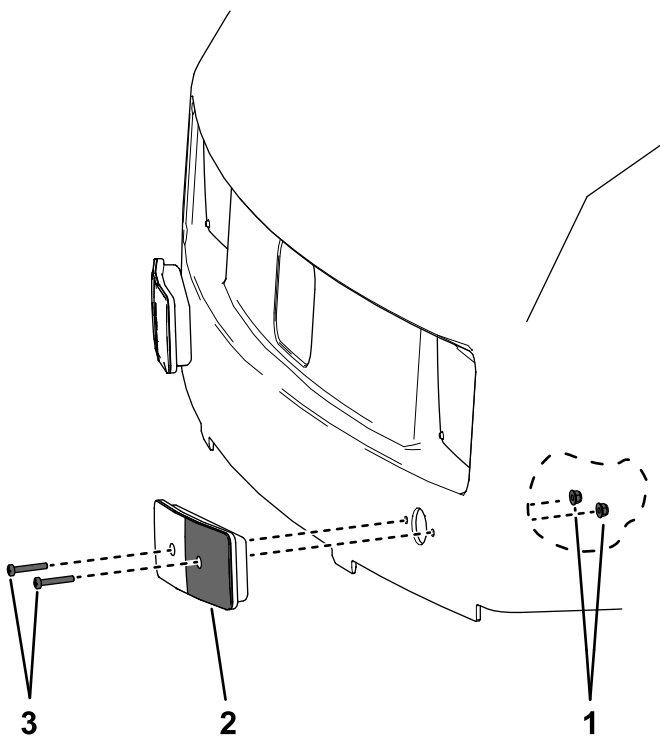

Figure 21
1. Remove the 4 Phillips-head bolts and nuts that secure the turn signal lights to the hood (Figure 21).